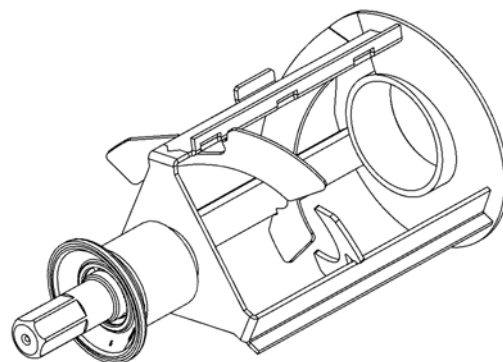

Figure 3-8 Auger Rear Seal
- B. Assemble the rear seal onto the auger with the large end to the rear. Be sure the o-ring is in place before installing the rear seal (Refer to Figure 3-8).